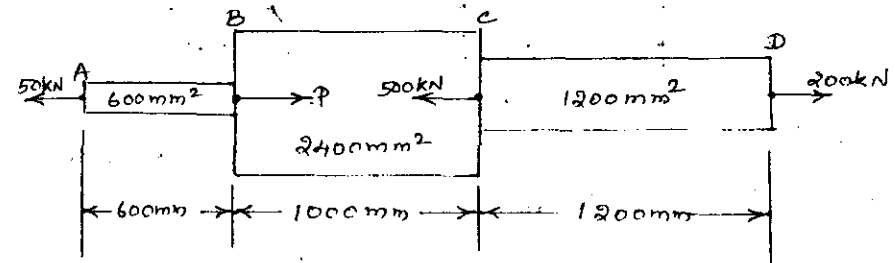

Fig. 1
- I (a) Draw the stress-strain diagram for mild steel and explain the behaviour of the material. (6)
- (b) A bar ABCD is subjected to loads as shown in figure 1. Determine: